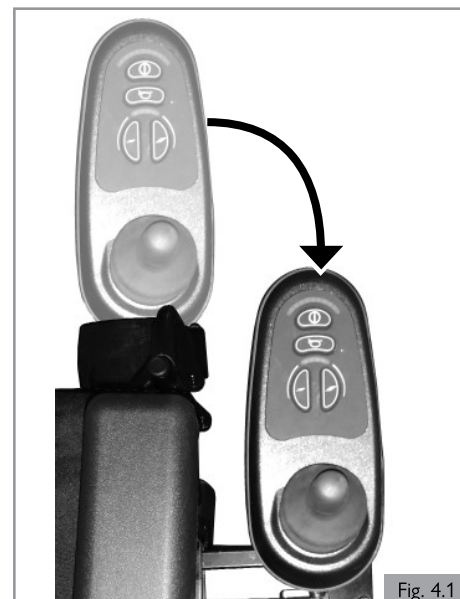

Fig. 4.1
- Only operate the wheelchair at a low and maneuverable speed when the parallel swing-away is in use. (Fig 4.1)